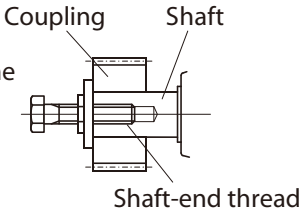

Fig.11
- Shrink fit or shaft-end thread is recommended for mounting (Fig.11).